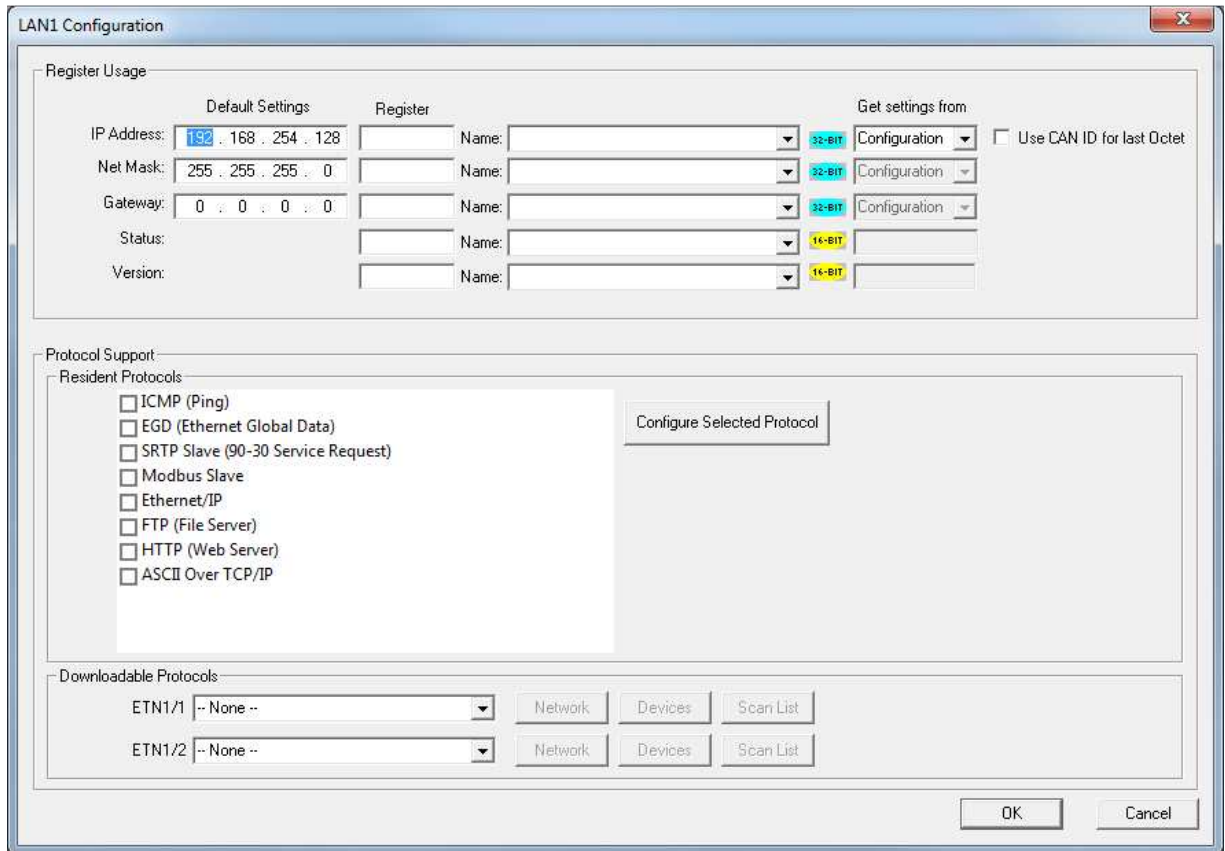

Figure 7.2 – Ethernet Module Configuration
3. Click the **Config** button to the right of LAN1 revealing the Ethernet Module Configuration dialog as shown in figure 7.2